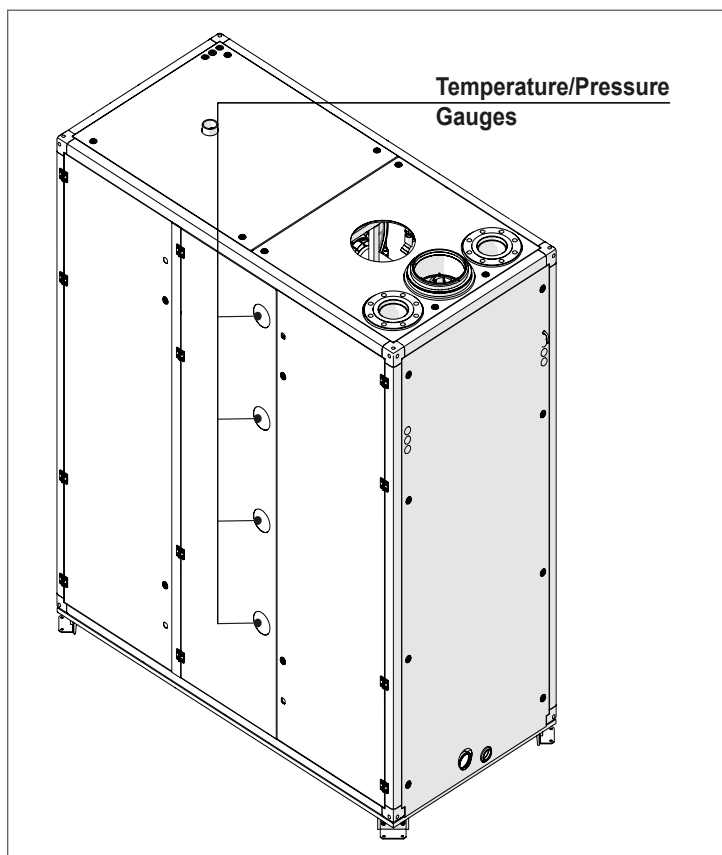

Fig. 47 Temperature/Pressure Gauge location
- Open the fill valve and proceed to fill the heating system and boiler until the pressure gauge (shown on Fig. 47), reads the pressure for which the heating system is sized. The heating system water pressure must be higher than 7.5 PSI.
Open the filling valve and check the pressure on the temperature/pressure gauge of Fig. 47.